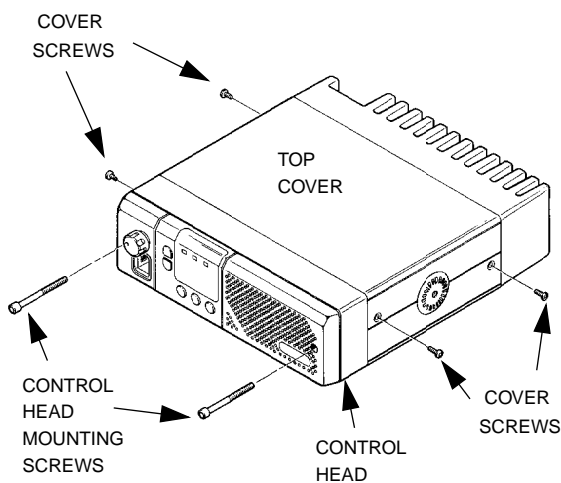

Figure 1-1.
1. Remove control head mounting screws (Figure 1-1).
4. Remove the two chassis cover screws from each side (Figure 1-1).